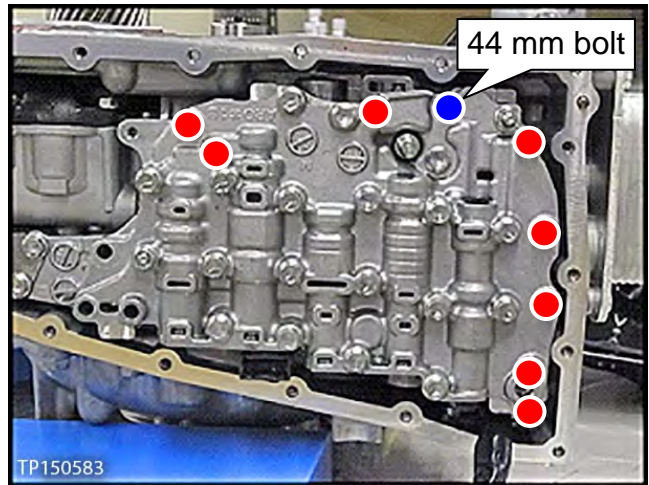

Figure 31
6. Remove the nine (9) valve body mounting bolts, and then carefully remove the valve body (see Figure 31).